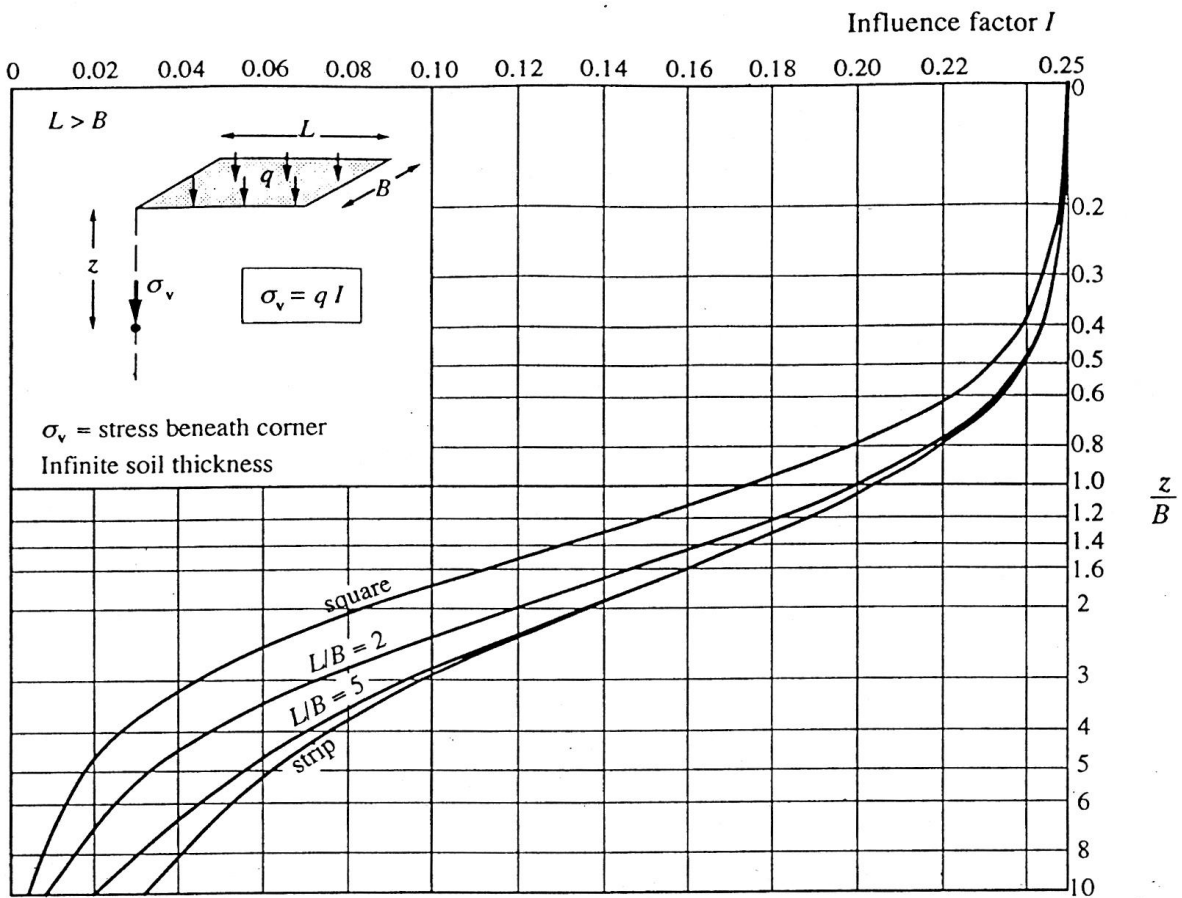

Fig Q2b
- b) A flexible foundation of length 4m and breadth 3m is to exert a uniform pressure of 250kN/m^2 on the surface of a layer of soil of assumed infinite thickness with a bulk unit weight of 20kN/m^3 . Using Figure Q2b, determine the total stress at a depth of 5m beneath the centre of the foundation.